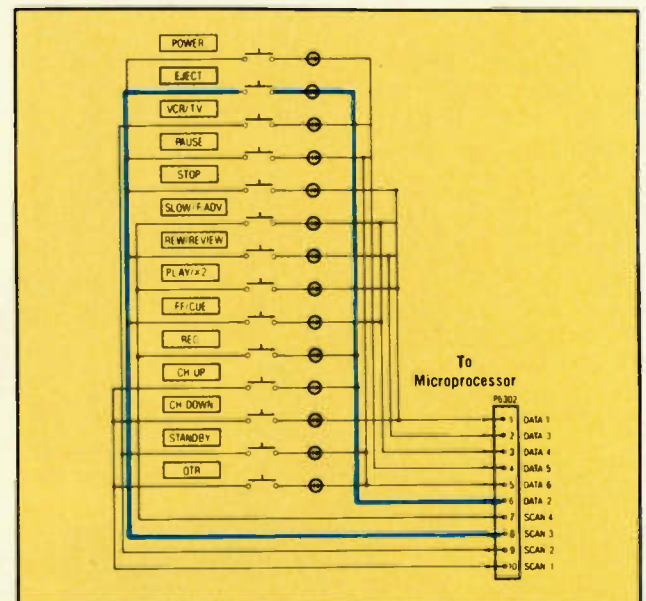

Figure 5. The four scanning pulses and six data pins allow up to 24 external switches with only 10 pins on the microprocessor.
• **Keyboard inputs.** The system-control circuits also sense if any of the front-panel buttons have been pressed. Most microprocessors use a scanning process, so there can be many more keys on the front panel than there are input pins on the microprocessor. Figure 5 shows a typical example. This microprocessor uses six data lines and four scan lines, which allows 24 operating buttons to use only 10 microprocessor pins. The scan pins supply pulses at four different times